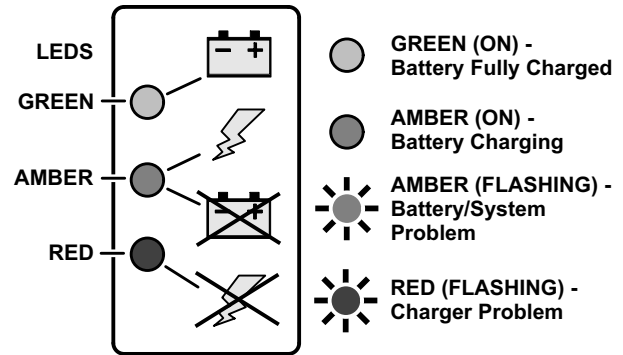

Figure 3-3. Charger Decal LED Indicators
3. When powered up the charger will go through a short LED indicator self-test. The battery charger LED indicators on the charger (Figure 3-3.), will flash in sequence for two seconds. These LED indicators can be viewed
If a fault has occurred during battery charging, the (AMBER or RED) LED on the charger LED indicator (*See Figure 3-3.*) will flash corresponding to the fault which occurred. Refer to Table 3-1 following for the charger LED flash codes and their meaning.